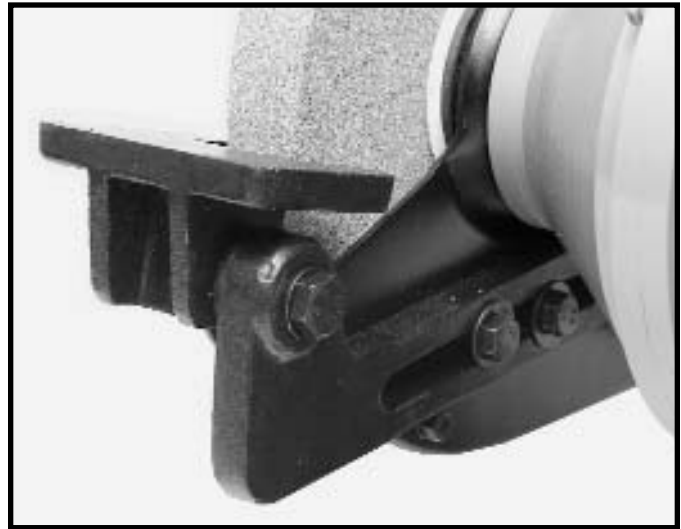

Fig. 4
2. To identify the left & right tool rests place them, as they would be assembled on the tool Fig. 4. The left tool rest will have a threaded hole on the right side of the tool rest, and the right tool rest will have a threaded hole on the left side of the tool rest.
3. Attach left tool rest assembly Fig. 4, to the inside of left wheel guard, and fasten with two bolts (2) Fig. 2, and two washers (7) Fig. 2 as shown.
5. Each tool rest assembly Fig. 4, is adjustable so it can be positioned slightly below the centerline of the wheel and as close to the grinding wheel as possible, giving maximum support to the piece that is being ground. A distance of 1/8-inch or less between the grinding wheel and the inside edge of the tool rest should always be maintained.